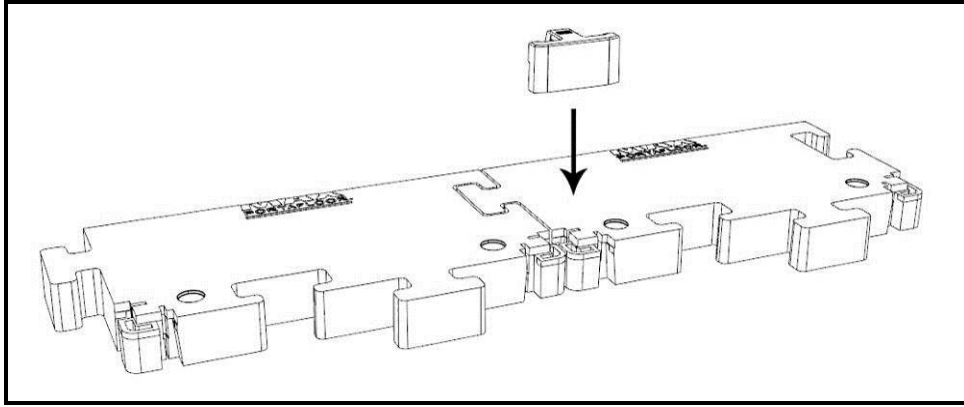
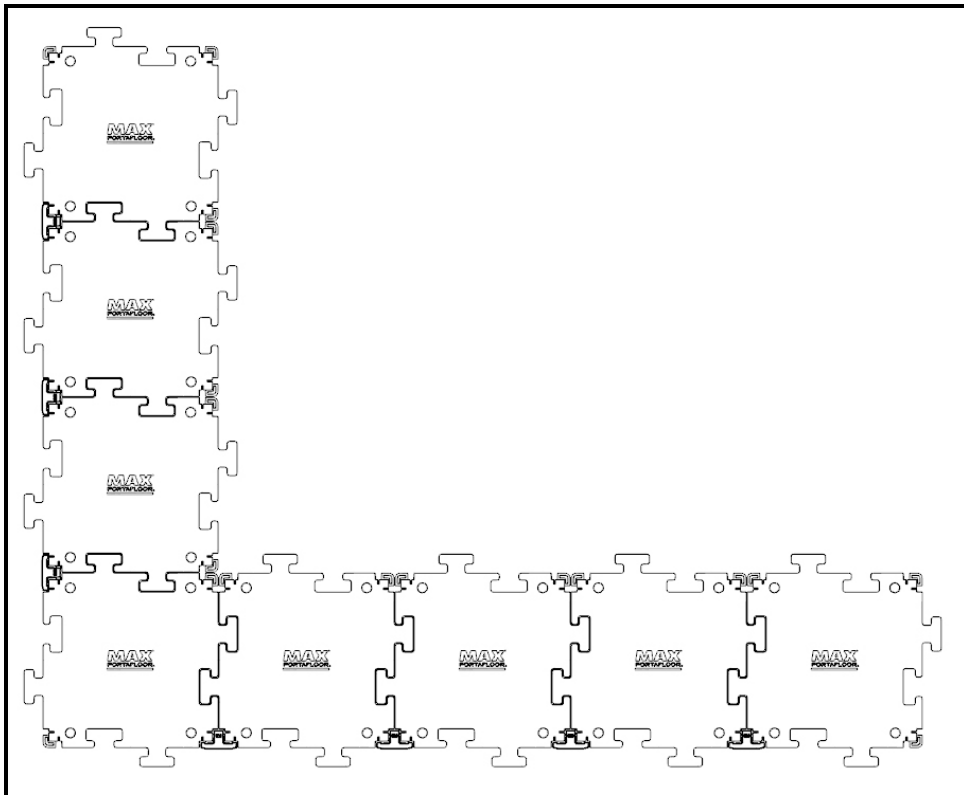

Figure 1
Figure 2
2. Install one row of PFMAX panels along the width of the floor, aligning the edge of the panels with the subsurface edge. Install panels by inter-locking the puzzle piece connections with the previous panel (see Figure 2). Pull each panel so that the gap between each is roughly 1/8". Install edge locks between each panel to help maintain the proper panel spacing (see Figure 1). PFMAX panels may overhang the edge of subsurface opposite from the starting location.
3. Install one column of PFMAX panels along the length of the floor, aligning the edge of the panels with the subsurface edge (see Figure 2). Pull each panel so that the gap between each is roughly 1/8". Install edge locks between each panel to help maintain the proper panel spacing (see Figure 1). Leave a gap of 3/8" – 1/2" between the panel edges and the inside edge of the compacted base form. PFMAX panels may overhang the edge of the subsurface opposite from the starting location.
10. Once trimming is complete, install any remaining edge locks to secure the perimeter PFMAX panels (see Figure 1). Note: panels trimmed beyond the locking feature will not be compatible with the edge lock pieces.